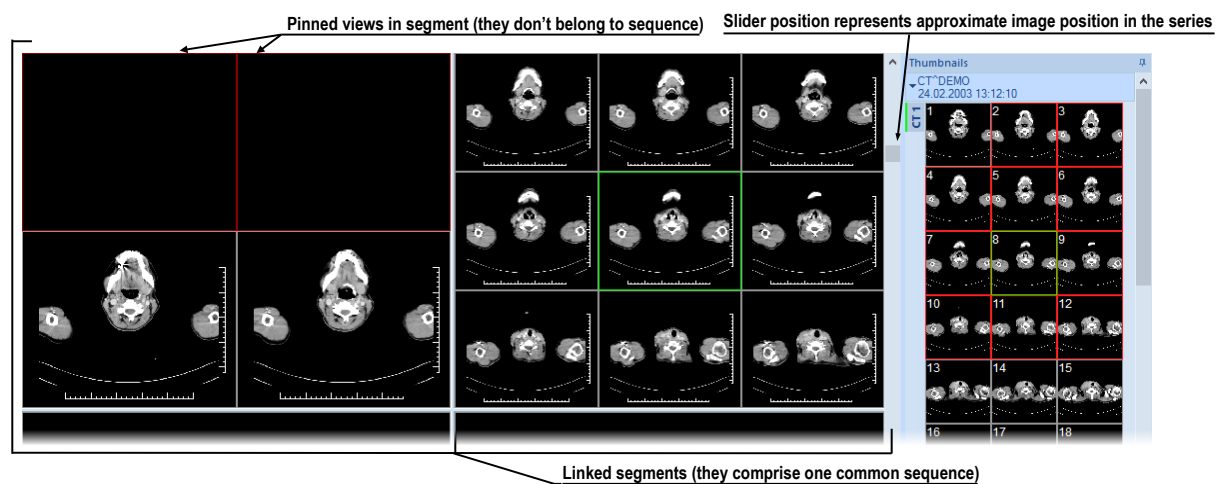

**Figure 130 – Series selection using the view context menu**
2. Right-click to display its context menu (see Figure 130).